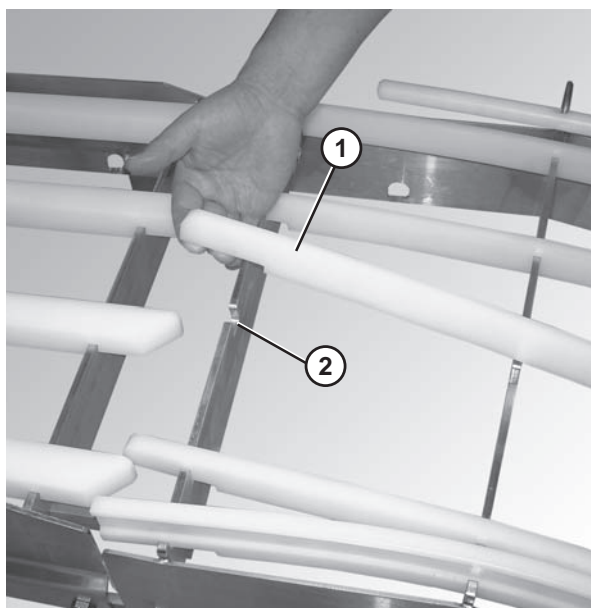

Figure 32
3. Insert the wear strips (**Figure 32, item 1**) into the appropriate slots in the frame (**Figure 32, item 2**), starting with the shortest wear strip on the inside of the curved section and working outward to the longest.